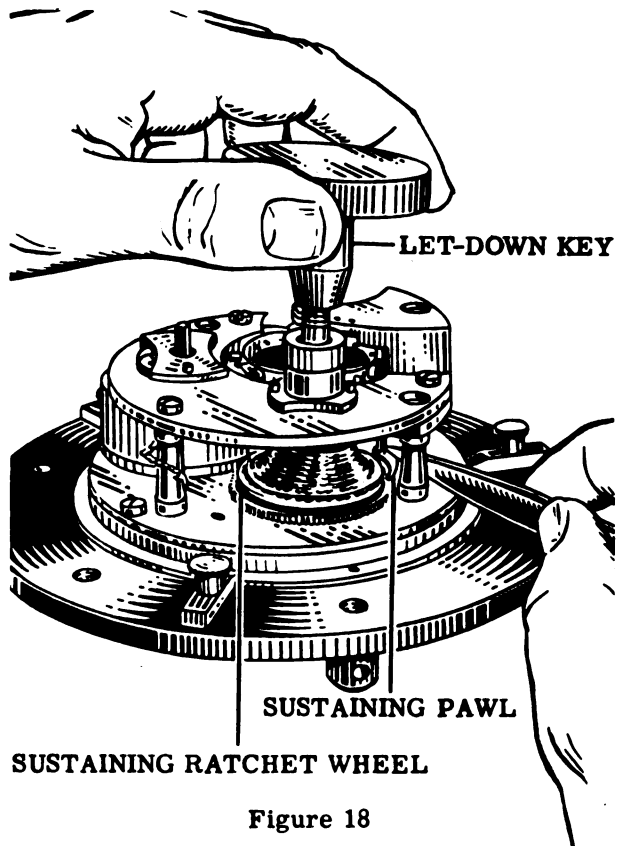

Figure 18
9. Using let-down key (Tool No. 18) on fusee arbor, turn slightly clockwise to release the sustaining pawl from the sustaining ratchet wheel. Hold the sustaining pawl away from the sustaining ratchet wheel and allow the key to rotate counterclockwise until the sustaining power is dissipated. See Fig. 18.